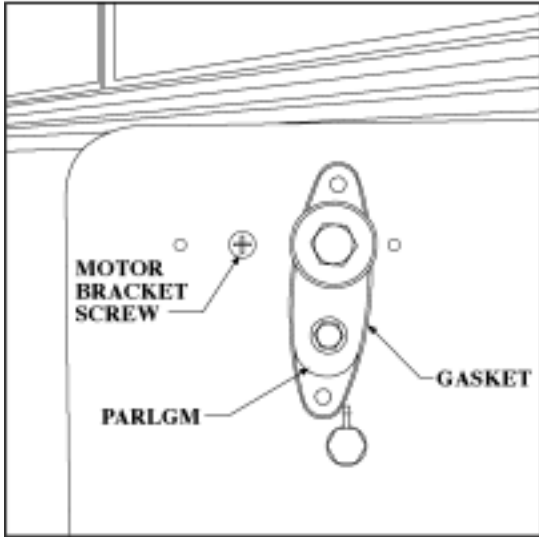

Figure 5—Screw Behind Parlgm
5. See Figure 5—Screw Behind Parlgm
9. Remove a screw from motor bracket. **Figure 5—Screw Behind Parlgm.**
5. Install a screw to the motor bracket. **Figure 5—Screw Behind Parlgm.**